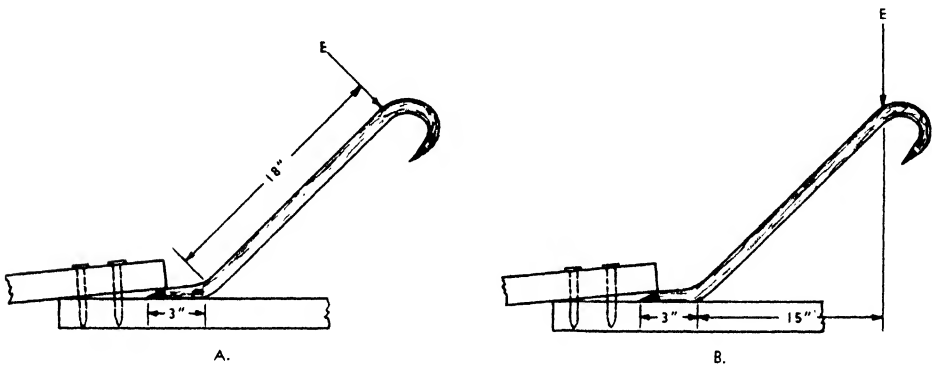

FIG. 69. WRECKING BAR AS LEVER.
5. If the nails in the boards, Fig. 69, offer a resistance of 300 lbs., what force is required to pull them in (a)? In (b)?
- Why is the effort arm shorter in (b) Fig. 69?